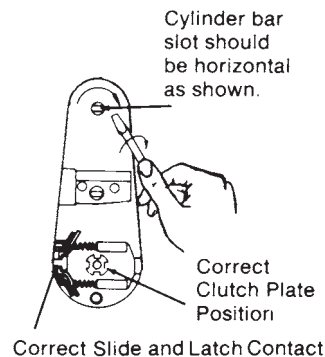
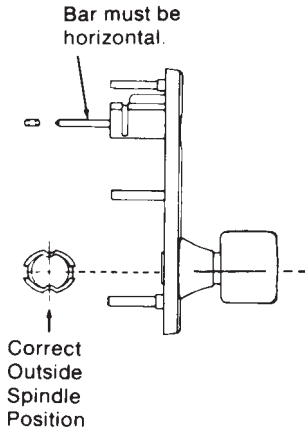
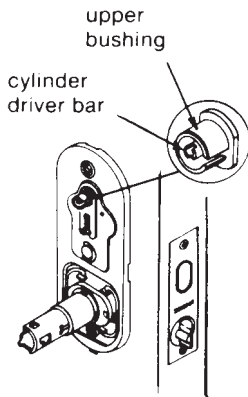

Figure 13.64 Testing lock.
Figure 13.65 Rotate cylinder bar.
Figure 13.67 Driver bar must be vertical.
11. From the outside of the door, turn the cylinder bar slot with a screwdriver to check the action of the deadbolt and deadlatch. Once you are satisfied that the lock works properly, retract the deadbolt and release the knob button. Turn the cylinder bar slot to the horizontal position (Fig. 13.64). The clutch plate should be situated as shown.
12. Rotate the cylinder bar to the horizontal position with the knob spindle as shown (Fig. 13.65).
13. Insert the cylinder bar into the bar slot in the top hole. Engage the clutch plate with the outside knob spindle. The spindle must be positioned as shown in Fig. 13.65 and the clutch as shown in Figures 13.64 and 13.66. G85PD locksets require that the cylinder driver bar be flush with the end of the upper bushing (Fig. 13.67).